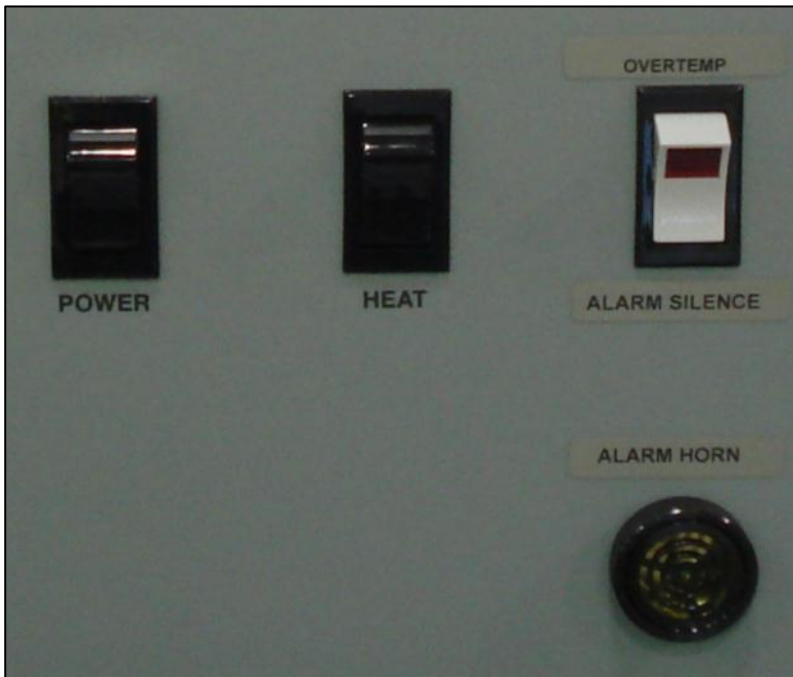

Figure 10. Power, Heat and Alarm Silence Switches.
High Limit audible and visual alarm is a red light and small alarm horn located on the front of the control panel (Figure 10). The alarm is sounded if a High Limit condition occurs. A switch is provided to silence the alarm. This alarm has a range of 80dB at 2 ft (0.6 m).
1. Momentarily toggle **POWER** (Figure 10) to start fans and check rotation.
3. Turn **HEAT** to ON (Figure 10).